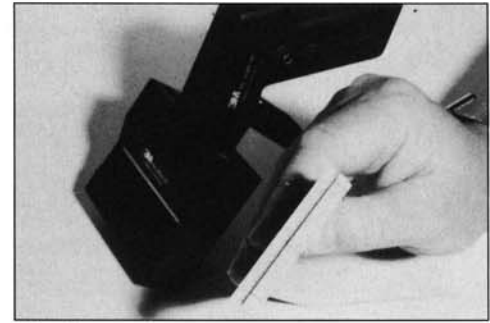

Fig. 5
4. Engage connector body partly into the locking clips of the cover (fig. 5).